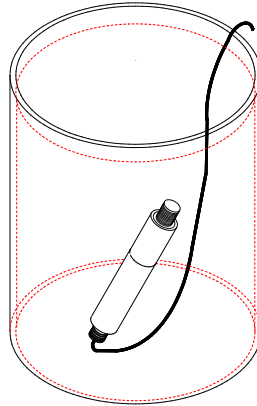

Figure 4 – Immerse in water
4. Immerse the piezometer upside-down in the bucket as shown in Figure 4.